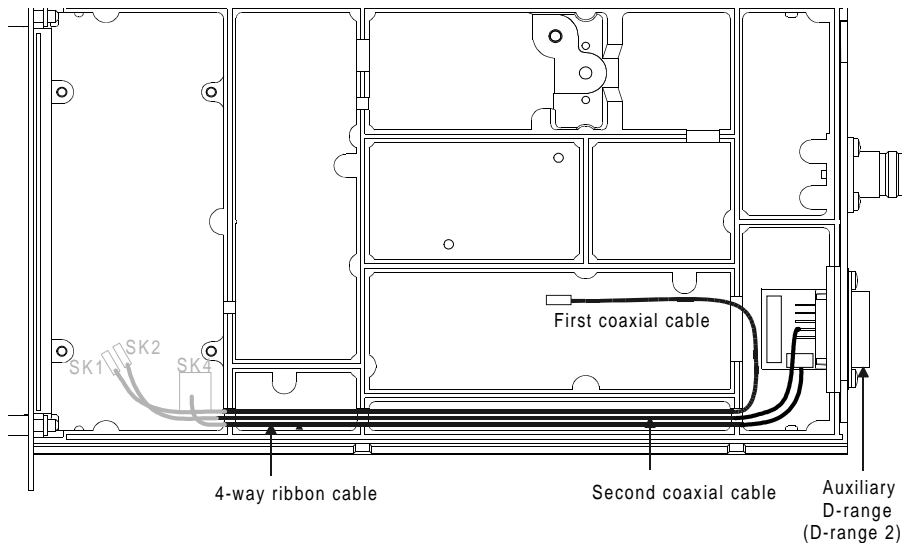

Figure 4 Cable Routing
- Connect the 4-way ribbon cable to the Micromatch socket SK4 and feed it through the loom channel cast into the chassis, to the auxiliary D-range compartment, as shown in Figure 4.
- Connect the coaxial cable provided between SK1 on the T800-32-0010 PCB and =SK710 on the T800 transmitter PCB, as shown in Figure 4.